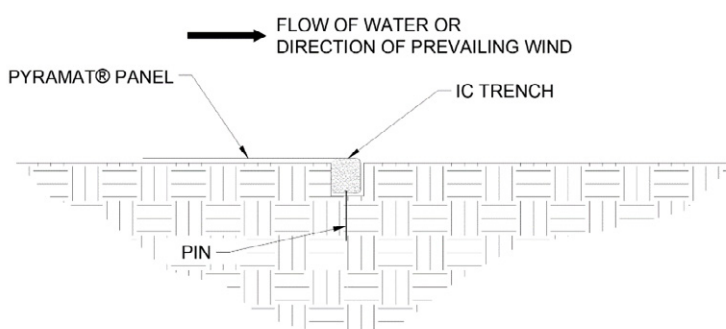

Figure 7: Initial Channel (IC) trench complete
5. Fold the panel over the top of the compacted IC trench (Figure 7) and place each panel end into the respective COS trenches.